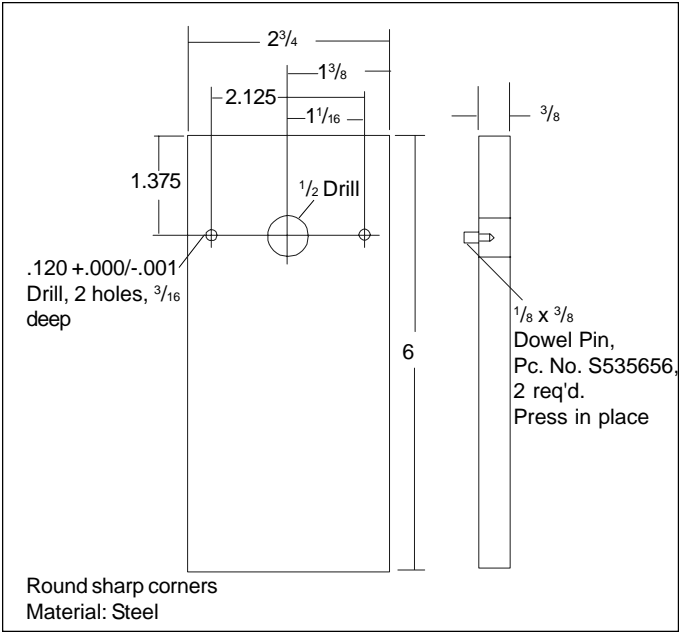

Figure 3 - Spanner Wrench (Drawing R-78)
- 7.3 A spanner wrench, as shown on Drawing R-78, which is used to aid in disassembling and assembling the piston assembly of the "B-1" Quick Service Valve Portion. See Figure 3.
- 7.6 **IMPORTANT:** The information shown in Figures 3 and
10.1.6.3 Holding the piston (18) with the spanner wrench shown in Figure 3 (see Section 7.3), remove the $\frac{3}{4}$ " lock nut (10), diaphragm follower (11) and diaphragm (12) from the piston (18).